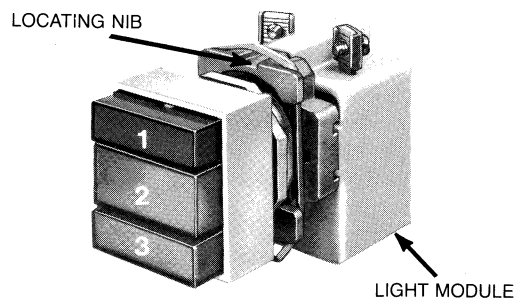

FIGURE 3
- c. Position and mount the light module on the basic operator as shown in Figure 3.